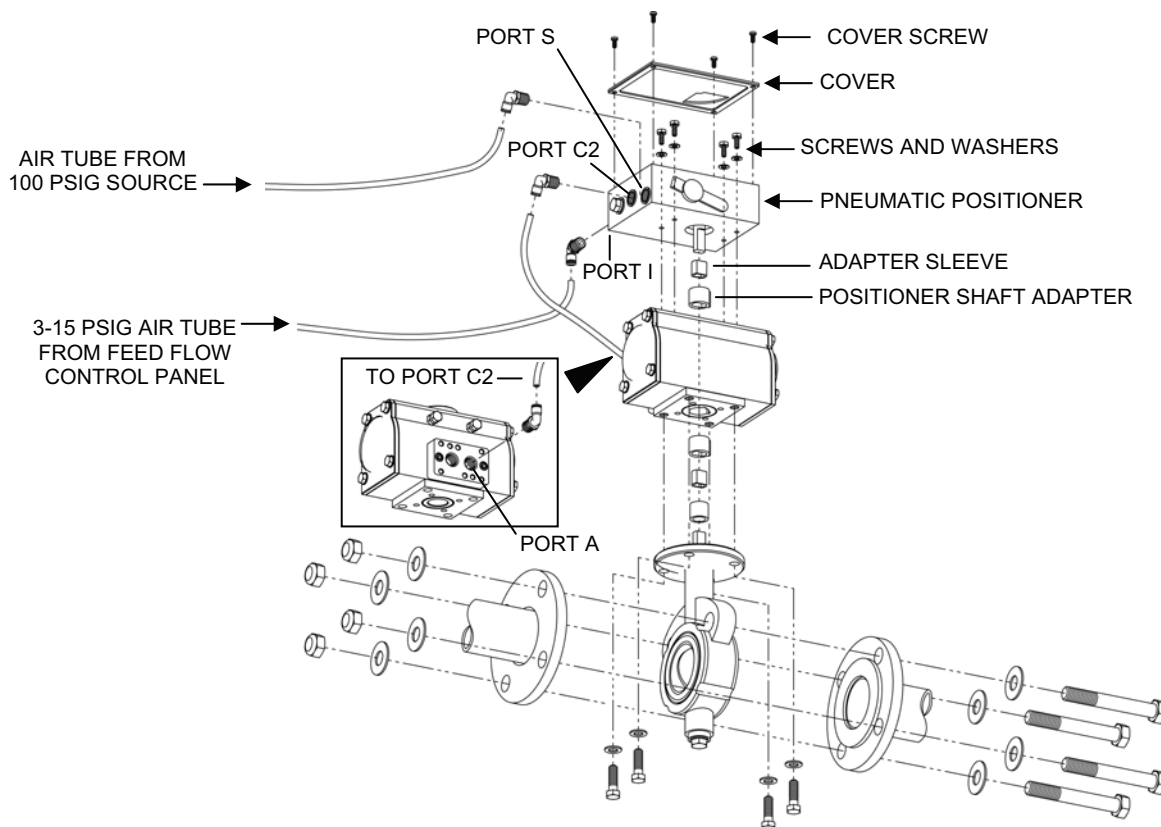

Figure 14. Pneumatic Positioner and Actuator.
5. Remove the positioner from the actuator as follows (see Figure 14):